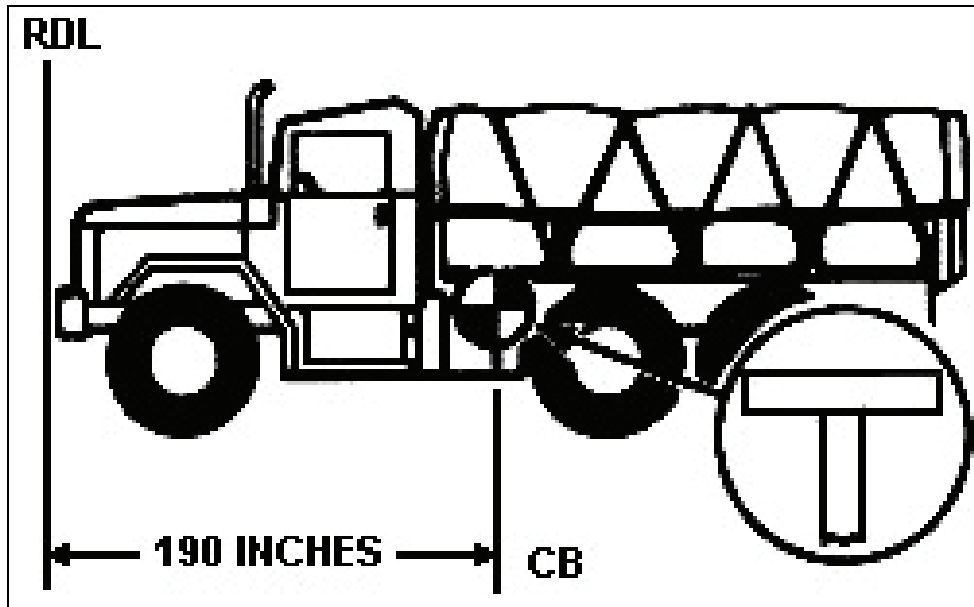

Figure 3-9. Measuring From Reference Data Line to Center of Balance
- a. Measure from reference data line to center of balance distance that was obtained from computations (see Figure 3-9)